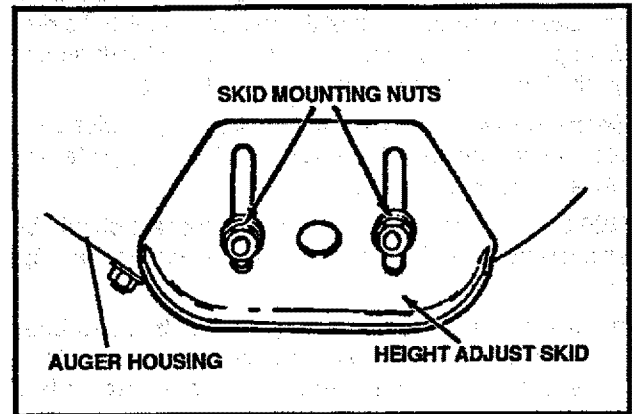

FIG. 22
This snow thrower is equipped with two height adjustment skids, located on the outside of the auger housing (See Fig. 22). These skids elevate the front of the snow thrower.
- Loosen the skid mounting nuts (See Fig. 22) and push the skid down until it touches the ground. Retighten the mounting nuts.